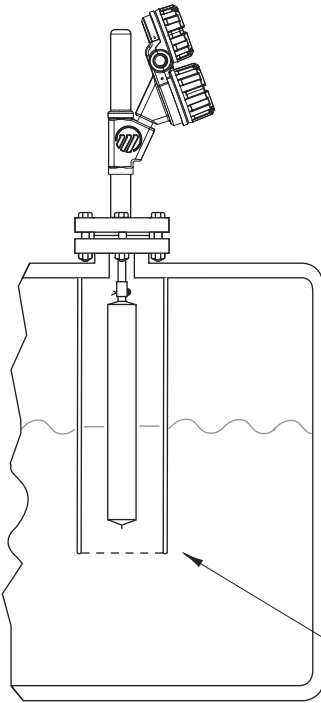

Figure 6
- A stilling well is installed for applications where continuous agitation is present. The stilling well must be vertically level so as not to restrict displacer movement. See Figure 6 for a typical stilling well installation.